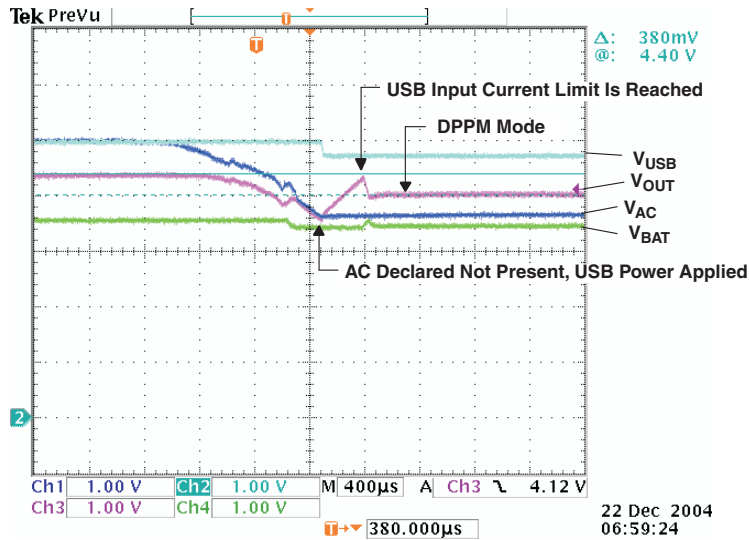

Figure 7. Remove AC – Power Transfer to USB
Figure 7 illustrates when AC is removed, power transfers to USB [PSEL = H (AC primary source), channel 1 (CH1) $V_{AC} = 5.4\text{ V}$, channel 2 (CH2) $V_{(USB)} = 5\text{ V}$, channel 3 (CH3) V_{OUT} , output current $I_{OUT} = 0.25\text{ A}$, channel 4 (CH4) $V_{BAT} = 3.5\text{ V}$, and $I_{(PGM-CHG)} = 1\text{ A}$]. The power transfer from AC to USB only takes place after the primary source (AC) is considered bad (too low, $V_{AC} \leq V_{BAT} + 125\text{ mV}$) indicated by the \overline{ACPG} FET turning off (open drain not shown). Thus, the output drops down to the battery voltage before the USB source is connected (sixth division). The output starts to recover when the USB FET starts to limit the input current (seventh division) and the output drops to the $V_{(DPPM-REG)}$ threshold.